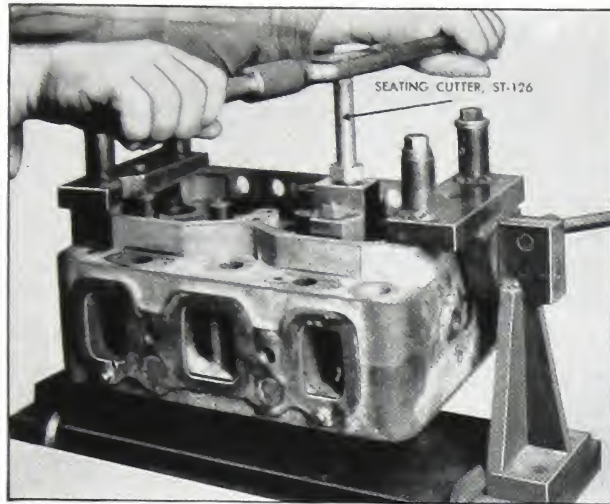

Fig. 3-13. Facing injector seat
7. Insert ST-438 seating cutter in a drill press to cut the injector seat in the newly installed sleeves. (Fig. 3-13). This cutter is designed to cut a true seat for the injector cup and, at the same time, cut a .010 relief in the bottom section. Correspondingly, the injector cup seal is made near the top of the cup taper where the supporting metal of the cylinder head is stronger.